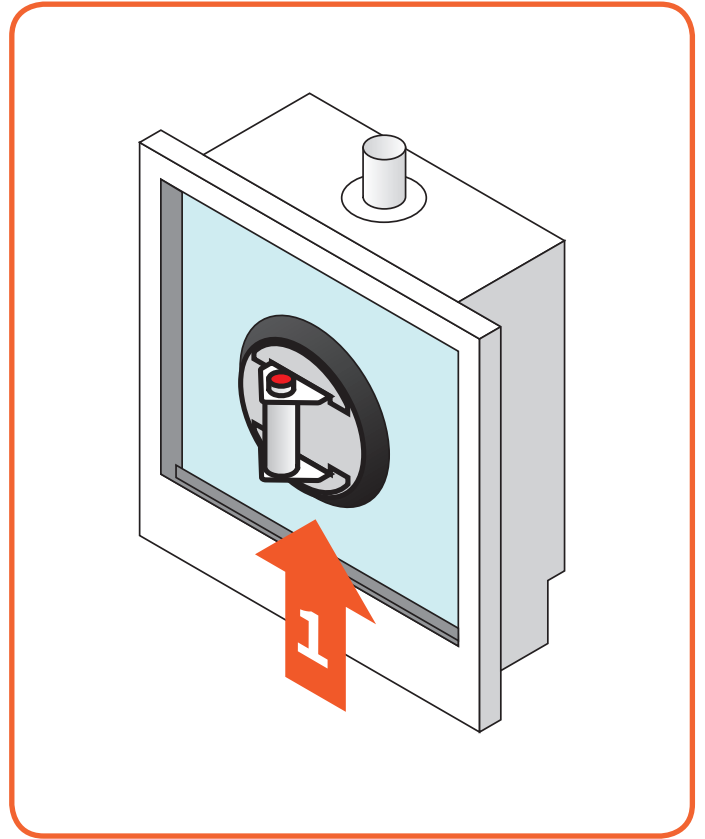

Figure 10.5 - Put on the suction cup and lift window
- Put the suction cup on the glass and make sure it is properly vacuumed, so it will not come off. (See **Figure 10.5**)